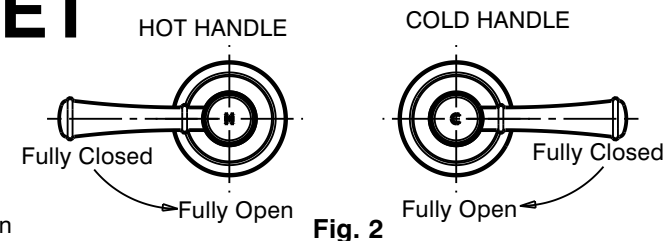

Fig. 2
- 7) Remove locknut (10), cap (11) and fibre washer from cartridge (12). Screw cartridge (12) into tap body (16). Using a suitable spanner, tighten cartridge (12) until it comes to a firm stop. (DO NOT TIGHTEN CARTRIDGE USING SPINDLE). Fit fibre washer and then locknut (10) and tighten using a suitable spanner.
- 8) Ensure handle insert (2) is in position in handle (1). With cartridge spindles in the fully closed position, position handles (1) as shown in **Fig. 2** before pushing handle (1) fully onto spindle (8). For small adjustments to handle positions, cartridge (12) can be rotated slightly in an anti-clockwise direction until handles are aligned as shown in **Fig. 2** before tightening locknut (10). Remove handles (1).
- 9) Ensure 'O'-rings (9) are fitted into groove of cartridge spindle (8). Screw on flanges (6) with 'O' rings to each locknut (10) and tighten securely by hand, taking care not to damage decorative finish. Fit trim sleeves (7) over each cartridge spindle (8) and push them down until they seat on cartridges.
i) Turn both spindles (8) to the fully closed position.